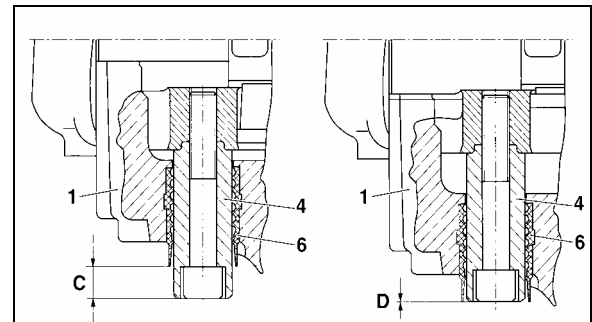

FIGURE 29: BRAKE PAD CHECK 12117
The pad thickness can be seen but would require removal of the tire and rim. An indicator of the pad wear condition is available by inspecting the floating pin location in relation to the rubber bushing as shown in figure 29. When pads are in new thickness condition, the pin will be exposed (C) 19 mm (3/4"). When the pads are worn to replacement conditions, the pin will be nearly flush to the bushing (D) or within 1 mm (3/64") of the edge of the rubber bushing.